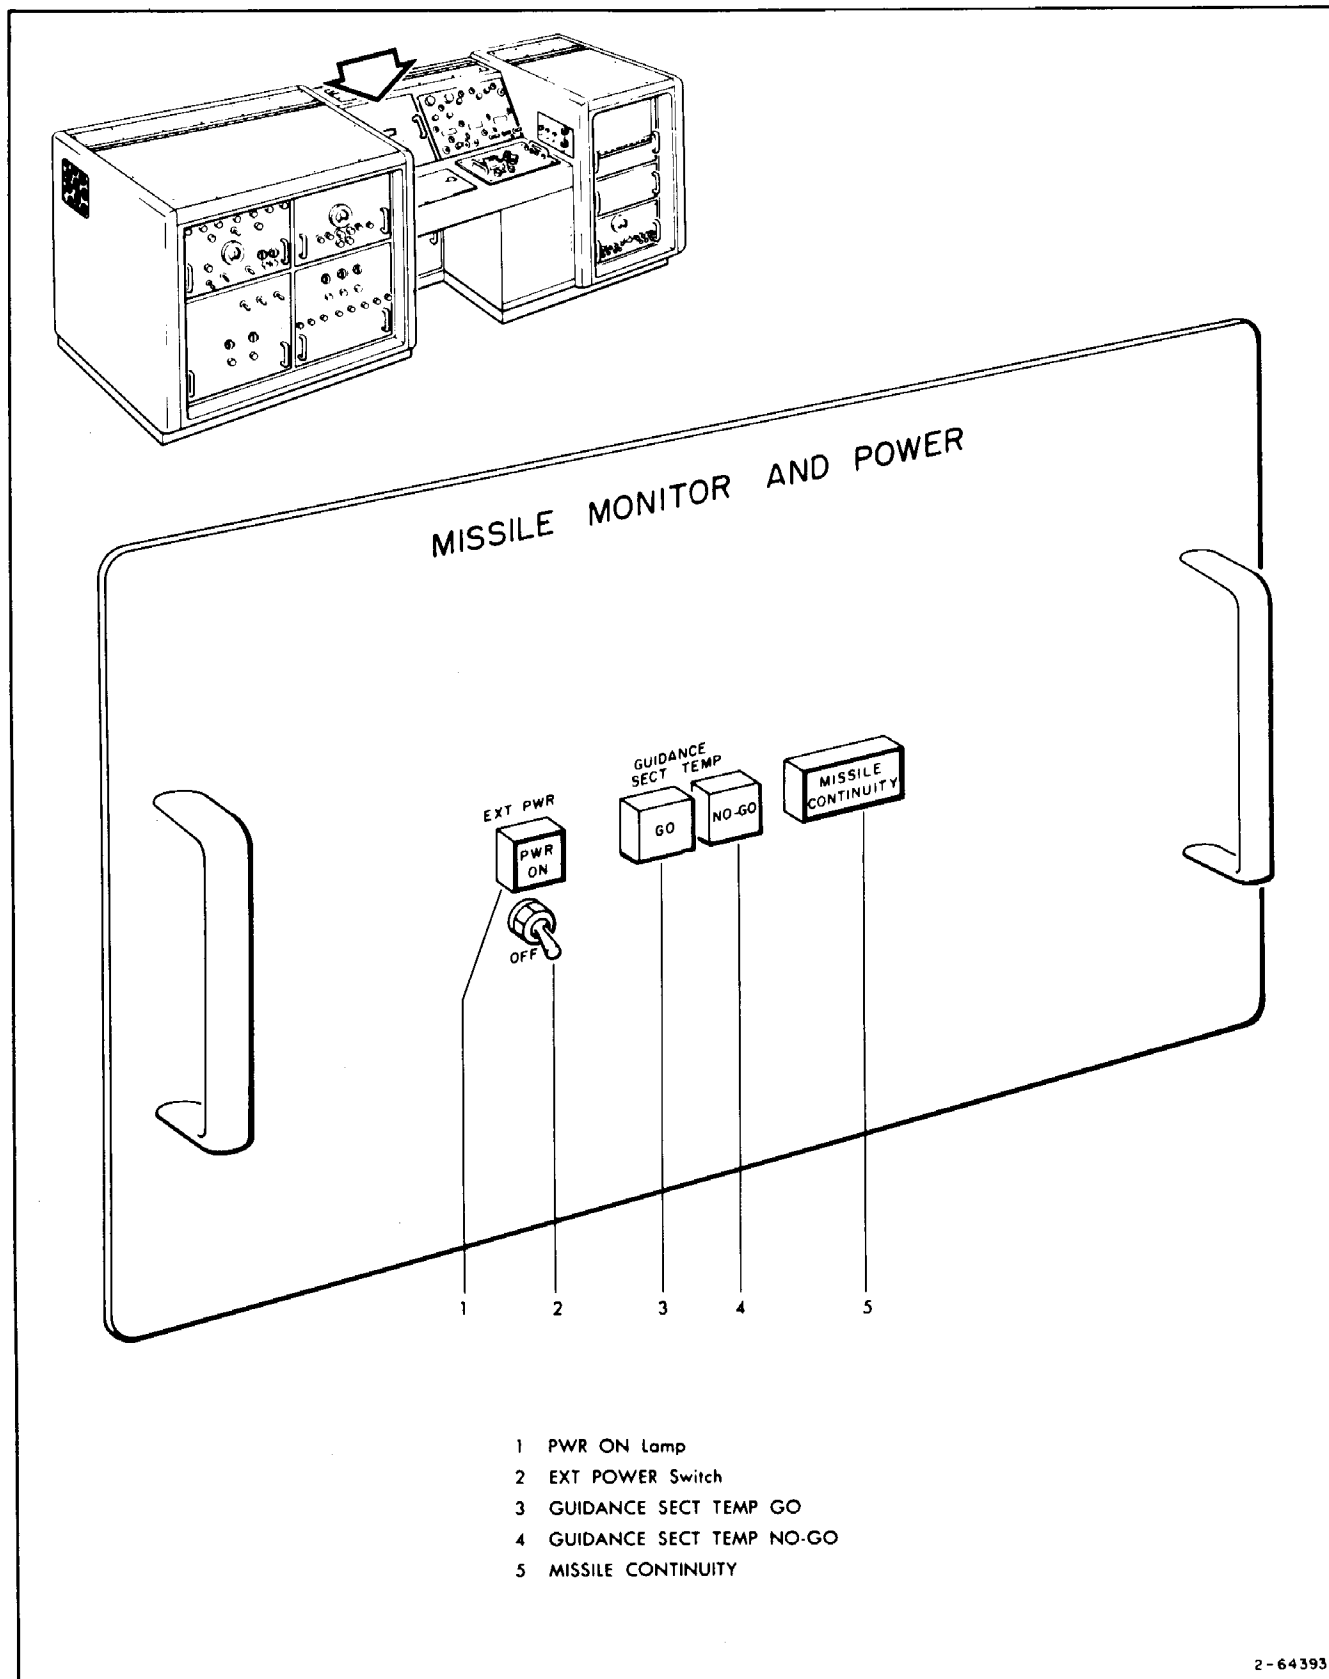

Figure 3-7. Missile Monitor and Power Panel
- a. Place EXT POWER switch (2, figure 3-7) on SRP Main Console Missile Monitor and Power Panel on (up).
- b. PWR ON (1, figure 3-7) and GUIDANCE SECT TEMP GO (3) indicator lamps must go on.